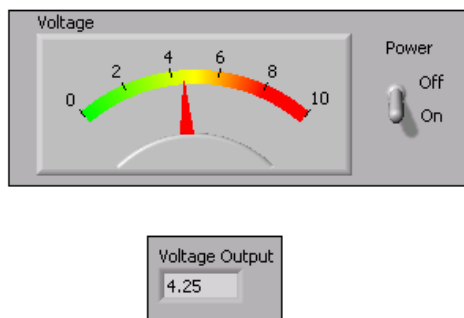

Figure 10.18
7. To acquire and display the voltage output, run the **Voltage Output VI**. The **Voltage Output** (Figure 10.18) VI outputs the voltage in 0.5 V increments from 0 to 9.5 V. When the **For Loop** executes its last iteration, the VI outputs 0 V to reset the analog output channel.